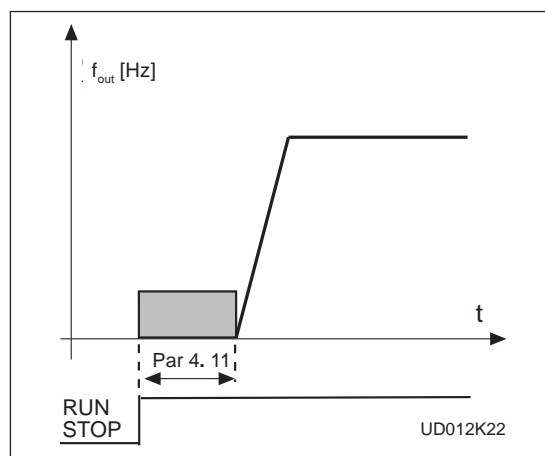

Figure 4.5-17 DC-braking time at start
- >0 DC-brake is active when the start command is given. This parameter defines the time before the brake is released. After the brake is released the output frequency increases according to the set start function parameter 4. 6 and the acceleration parameters (1. 3, 4. 1 or 4. 2, 4. 3). See figure 4.5-17.